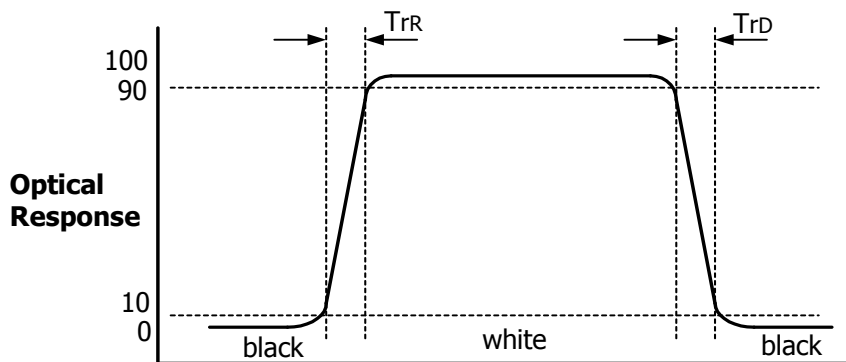

FIG. 3 Response Time
4. Response time is the time required for the display to transition from black to white (Rise Time, Tr_R) and from white to black (Decay Time, Tr_D). For additional information see FIG 3.